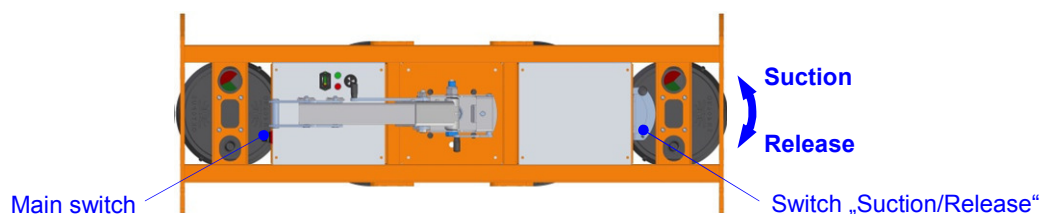

Fig. 8: Switch „Suction/Release“
The OKTOPUS® GLASS-Jack GL-LN 700 is operated on the device according to fig. 8.
- ⇒ Now the suction of the construction element is performed. Therefor slightly lift the switch “Suction/Release” (see fig. 8), and then shift it towards “Suction” until it latches (see also pt. 3.5 “Start-up”).
- ⇒ Now the suction of the construction element is performed. Therefor slightly lift the switch "Suction/Release" (see fig. 8), and then shift it towards "Suction" until it latches (also see pt. 3.5 "Startup").